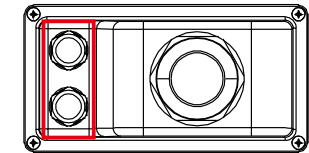

Figure 5.29
- Screw off the covers of "COM2" and "COM3" on the inverter as shown in Figure 5.29.